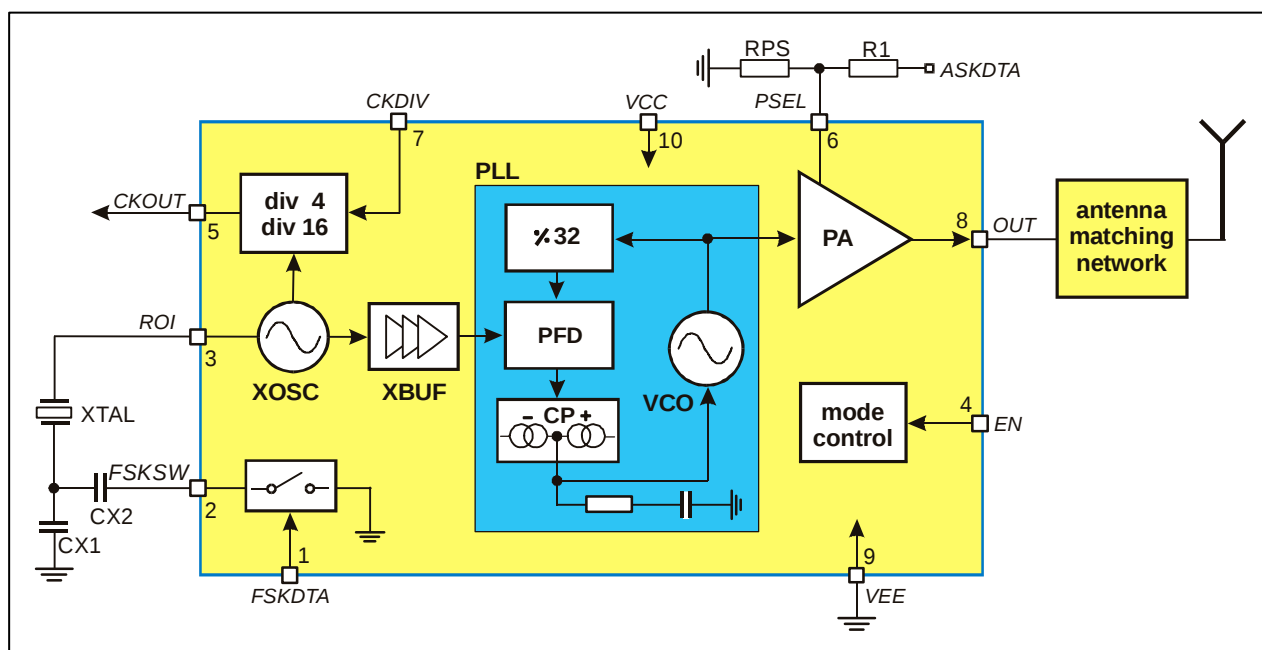

Fig. 1: Block diagram with external components
As depicted in Fig.1, the TH72006 transmitter consists of a fully integrated voltage-controlled oscillator (VCO), a divide-by-32 divider (div32), a phase-frequency detector (PFD) and a charge pump (CP). An internal loop filter determines the dynamic behavior of the PLL and suppresses reference spurious signals. A Colpitts crystal oscillator (XOSC) is used as the reference oscillator of a phase-locked loop (PLL) synthesizer. The VCO's output signal feeds the power amplifier (PA). The RF signal power P_{out} can be adjusted in four steps from $P_{out} = -12$ dBm to $+10$ dBm, either by changing the value of resistor RPS or by varying the voltage V_{PS} at pin PSEL. The open-collector output (OUT) can be used either to directly drive a loop antenna or to be matched to a 50Ohm load. Bandgap biasing ensures stable operation of the IC at a power supply range of 1.95 V to 5.5 V.